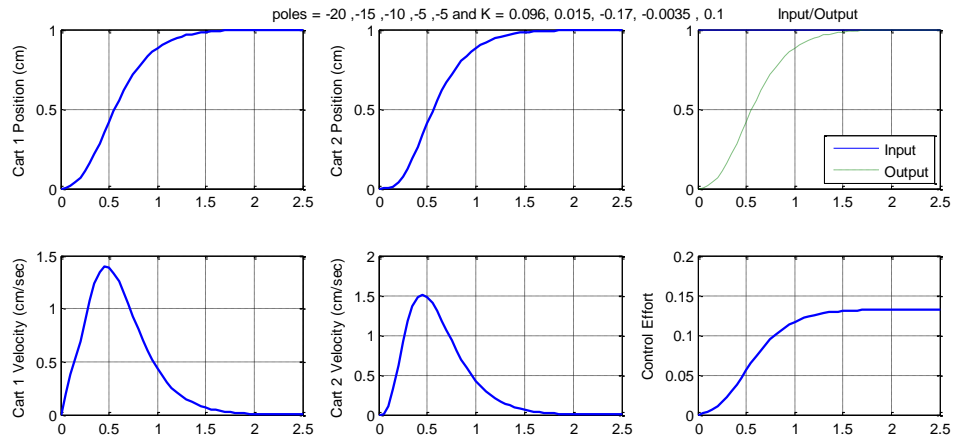

Figure 5: State feedback control of a 2DOF rectilinear system
- 7) Set the amplitude to 1.0 and the final time to 2.5 seconds, and place the poles at -5, -10, -15, -20, and -5. Run the simulation and you should get results similar to those shown in Figure 5.